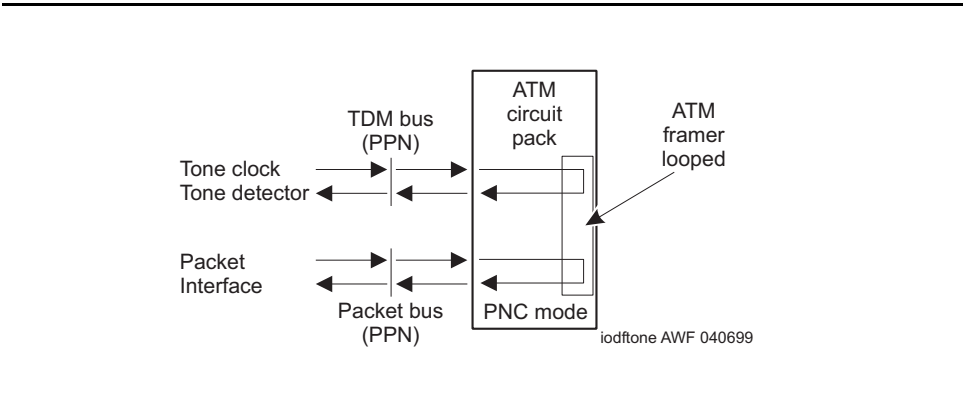

Figure 5-8. ATM Board Framer Looparound Test (#1260)
- **The circuit (TDM) path:** one of the tone generators sends a bit pattern through a TDM bus time slot to the ATM framer. The pattern is converted into ATM cells and looped back to the ATM-EI board, which converts the cell back into the bit pattern and puts it on a pre-determined time slot. A tone detector tests for the bit pattern and reports the test result. This test verifies that a large portion of the ATM-EIs circuit paths are functioning correctly. Figure 5-8 shows a diagram of the test.